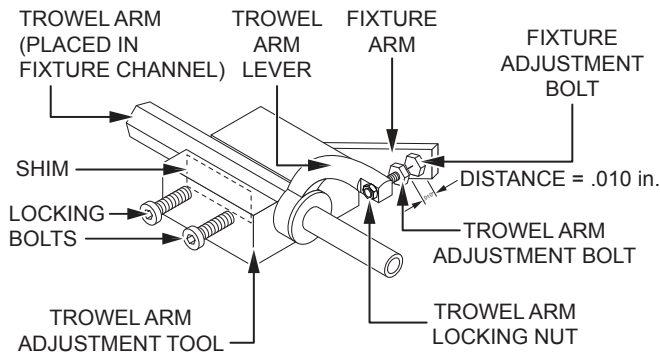

Figure 66. Trowel Arm Adjustment
1. Unscrew the locking bolts on the adjustment tool and place a trowel arm (with lever attached) into the fixture channel as shown in Figure 66. A thin shim may be needed to cover the blade holes on the trowel arm.
3. Align the trowel arm adjustment bolt with the fixture adjustment bolt (Figure 66).
4. Tighten the locking bolts (Figure 66) to secure the trowel arm in place.